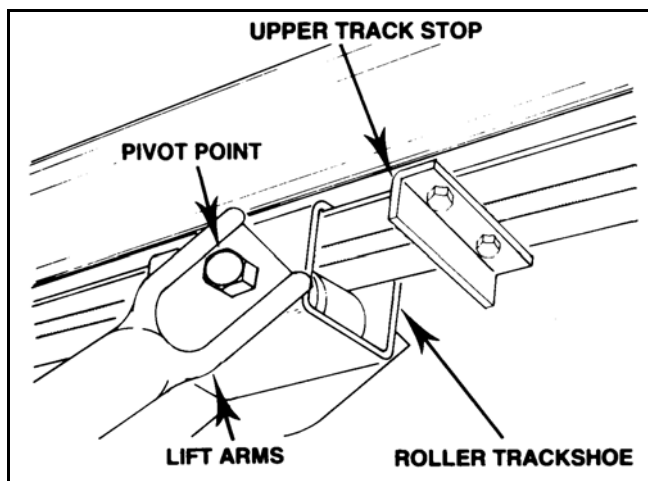

Figure 3.23
10. Attach upper lift arms to roller track shoe with one $\frac{5}{8}$ " x $6\frac{1}{2}$ " bolt and locknut. **Do not overtighten.** Tighten snug only; this bolt acts as a pivot point (Figure 3.23).